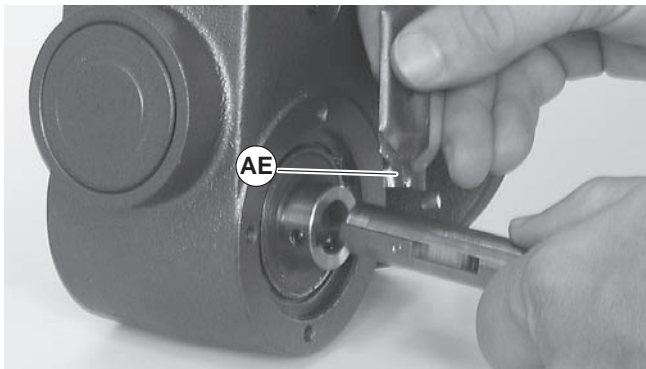

Figure 28
7. Apply grease (Figure 28, item AE) to shaft.